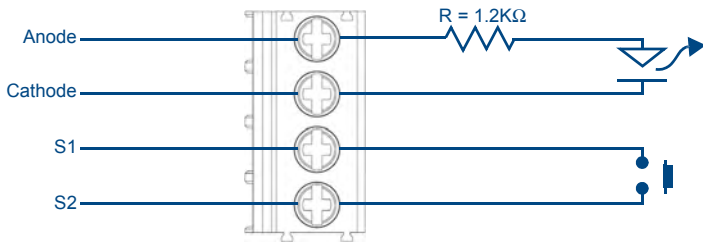

FIG. 5 HPX-U100-BTN Single Button Module - Wiring Schematic
3. Secure each connection using the terminal screw, according to the schematic provided in FIG. 5: